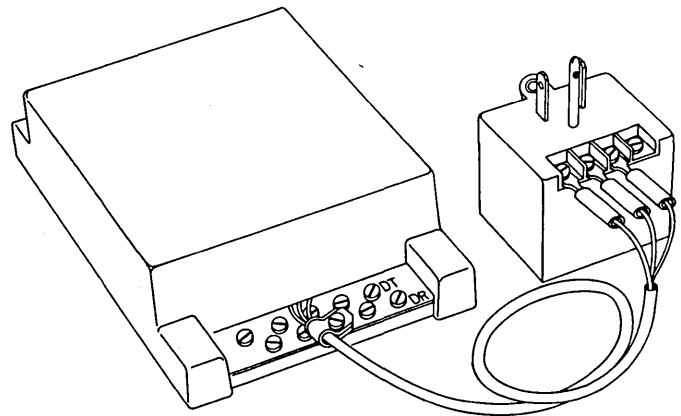

Figure B-5. Data Access Arrangement
- a. If communications connection uses DAA (figure B-5), refer to 40003-107 Hardware Maintenance Manual for information on installation.